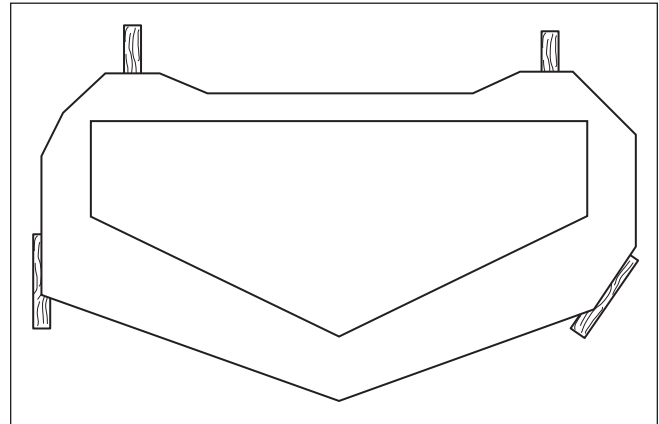

Figure 43. 2 x 4 Locations
3. Place 2 x 4 blocks under each corner of the mower deck with the 3-1/2" sides being vertical. Place a 1/4" (0,64 cm) thick spacer on top of the rear 2 x 4 blocks. See Figure 43.